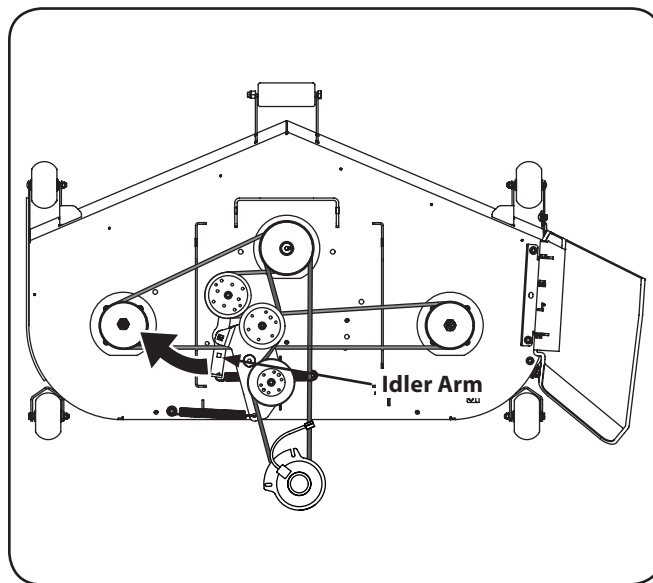

Figure 7-9
- Using a $\frac{1}{2}$ " socket breaker bar or socket ratchet insert the male end into the $\frac{1}{2}$ " square opening in the lower idler arm assembly and pull the idler arm clockwise. See Fig. 7-9. While holding the idler arm back, loosen the deck belt from the pulley and slide the belt away from the pulley.
2. Remove the hex washer screws securing the belt covers to the deck and remove the belt from the spindle pulleys. Refer to Fig. 7-9.